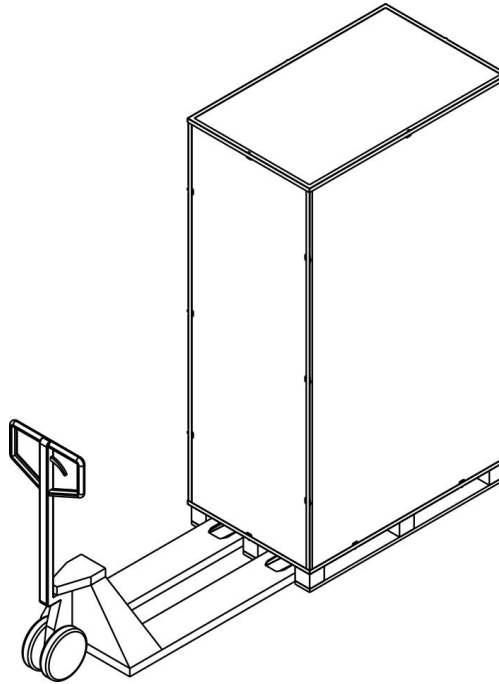

Figure 2-1
1. Use a forklift to move the product to installed area. Refer to Figure 2-1. Please make sure the bearing capacity of forklift is sufficient.